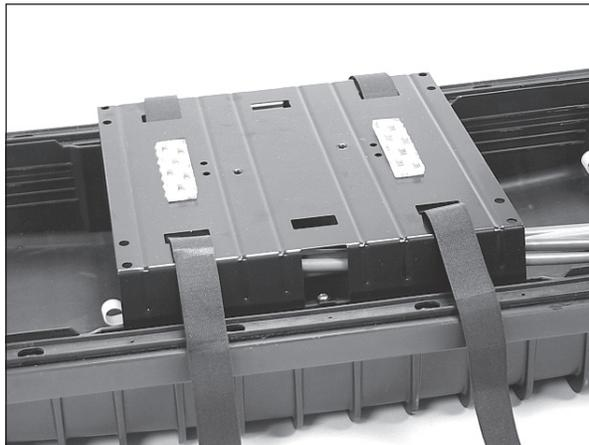

Figure 22
- 5.2 Remove liner. Place two pieces of 3M™ Dual Lock™ Fastener on tray support, as shown. Mate second two pieces of fastener to the attached pieces. Remove liner from back of top pieces and attach first tray. (See Figure 22)